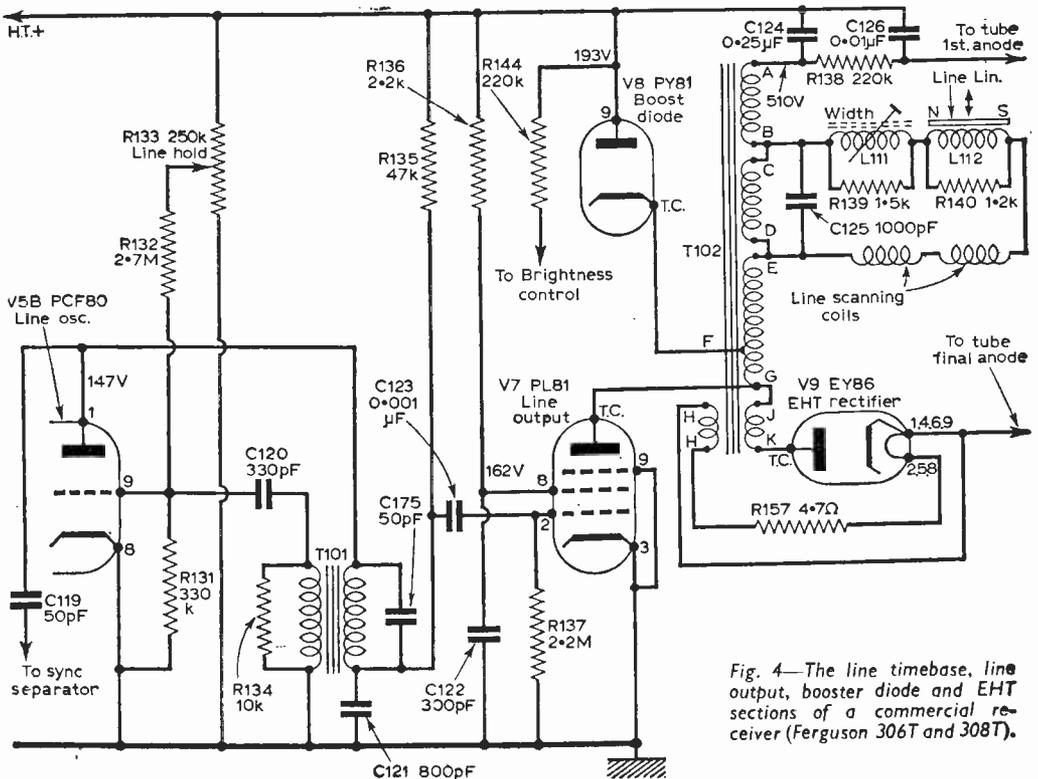

Fig. 4—The line timebase, line output, booster diode and EHT sections of a commercial receiver (Ferguson 306T and 308T).
**W**E now come to the line oscillator, line output, boost diode and EHT sections of a typical receiver, and in Fig. 4 is given the circuit of these stages. Here V5B is the line blocking oscillator valve (part of a triode-pentode), V7 the line output valve, V8 the boost diode and V9 the EHT rectifier valve.
The major item in the line output stage is the "line output transformer", T102 in Fig. 4. The sawtooth drive at the control grid of V7 causes an increase in current through section G-F of the line output transformer (the booster diode is conducting D.C. to point F). This induces a sawtooth current in section C-D of the transformer and also in the line scanning coils. The scanning spot is thus deflected from left to right across the screen.
This voltage is virtually a spare voltage derived from unwanted disturbances in the line output transformer. It can, in fact, be considered as a by-product which is obtained by employing a rectifier (boost diode) to damp oscillatory effects in the line output stage. The so-called "boost voltage" (the H.T. line voltage plus the voltage across the boost reservoir capacitor) is used in some sets to feed the frame timebase as well as for supplying the tube second anode potential. In the circuit of Fig. 4, it is used solely for feeding the tube second anode, and it does this through R138, which is a filter resistor, and across C126, which is a smoothing capacitor. The final anode of the tube is, of course, supplied by the high-voltage D.C. at the cathode of the EHT rectifier valve.